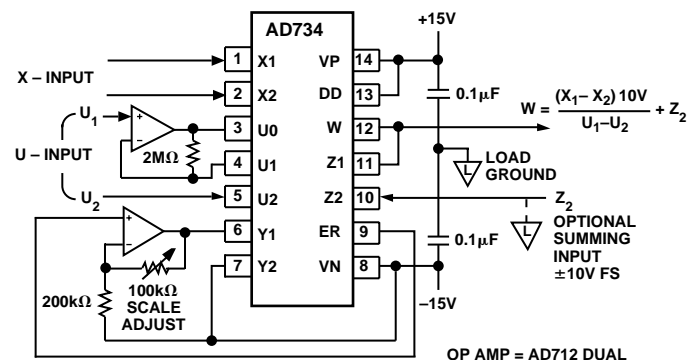

Figure 12. Two-Quadrant Divider with Fixed 10 V Scaling
The output ER may also be buffered, re-scaled and used as a general-purpose reference voltage. It is generated with respect to the negative supply line Pin 8 (VN), but this is acceptable when driving one of the signal interfaces. An example is shown in Figure 12, where a fixed numerator of 10 V is generated for a divider application. There,  $Y_2$  is tied to VN but  $Y_1$  is 10 V above this; therefore the common-mode voltage at this interface is still 5 V above VN, which satisfies the internal biasing requirements (see Specifications table).
Where a numerator of 10 V is needed, to implement a two-quadrant divider with fixed scaling, the connections shown in Figure 12 may be used. The reference voltage output appearing between Pin 9 (ER) and Pin 8 (VN) is amplified and buffered by the second op amp, to impose 10 V across the Y1/Y2 input. Note that Y2 is connected to the negative supply in this application. This is permissible because the common-mode voltage is still high enough to meet the internal requirements. The transfer function is